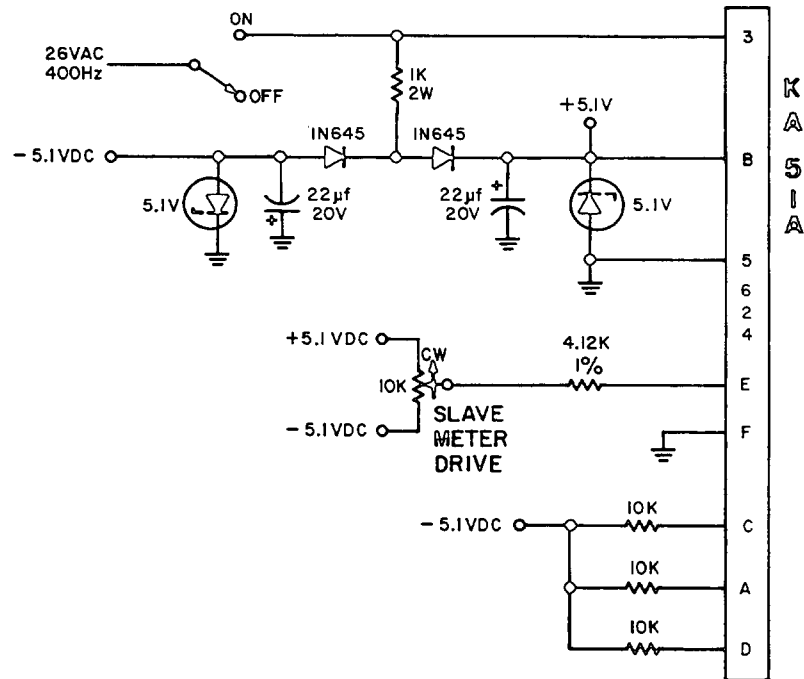

FIGURE 5-4 KA 51A TEST CIRCUIT
- a) Electronic test circuitry shown in Figure 5-4.
- 1) Connect the unit as shown in Figure 5-4. Switch the 26VAC on and record the following voltages: